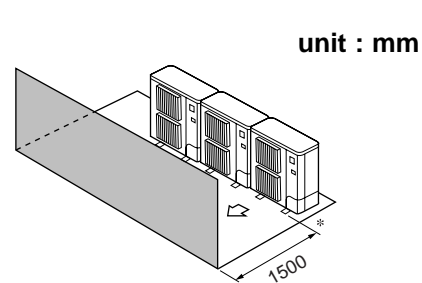

Fig.2-12
- Obstacles at front only (Fig. 2-12)